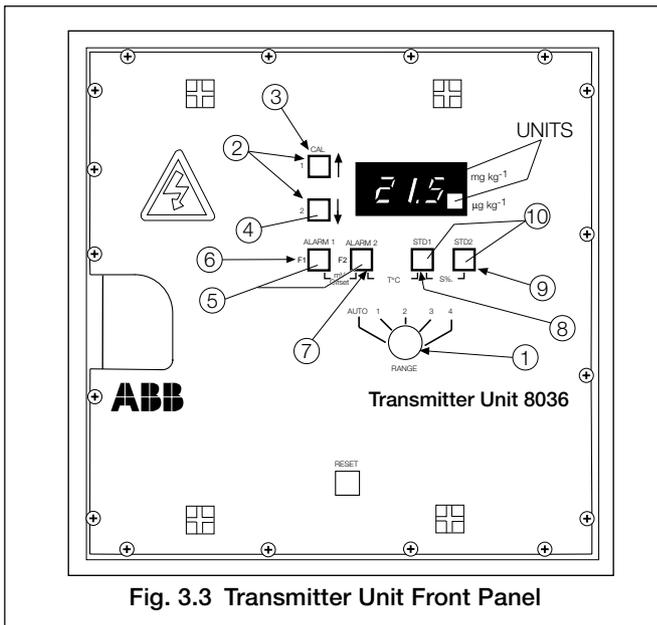

Fig. 3.3 Transmitter Unit Front Panel
3.2 Transmitter Units (Fig. 3.3)